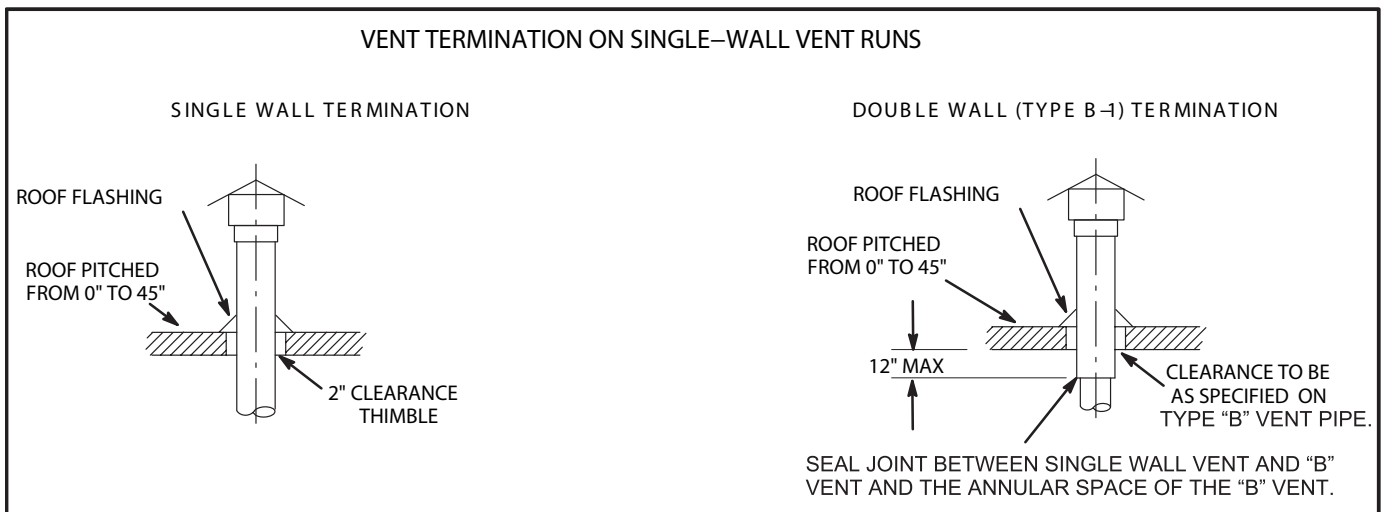

FIGURE 2
- 1 – All SEP unit heaters are to be used with NFPA– or ANSI– approved chimneys or U.L.–listed type B–1 gas vents where applicable, as well as the modifications and limitations listed in figure 2.
- 12 – When termination is routed through an exterior combustible wall the vent must be supported using a listed clearance thimble. Where local authorities permit, a single section of type B-1 vent pipe may be used as an alternative to the thimble. When using a type B-1 vent termination use the clearances specified by the vent manufacturer. Seal the connection between the single-wall and double wall pipes and the annular space of the double wall pipe as shown in figure 2. Inside edge of vent termination